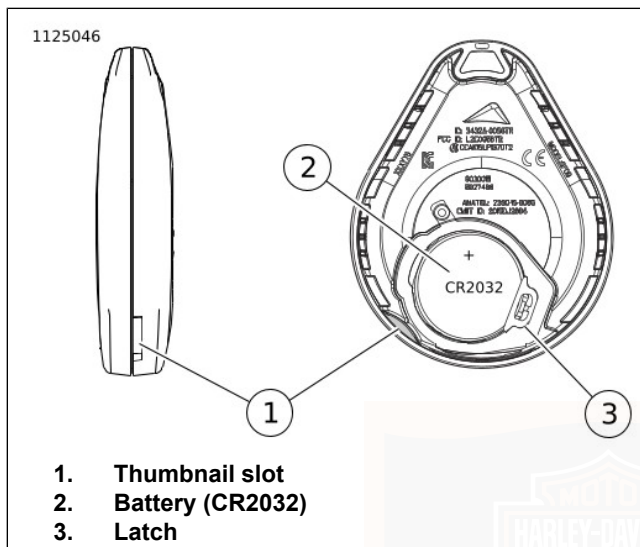

Figure 22. Replace Fob Battery
- See Figure 22. The serial number of the fob is also found on the inside of the fob.
1. See Figure 22. To open the fob, turn a thin blade in the slot (1).
2. Remove the battery (2) and discard in accordance with local regulations.